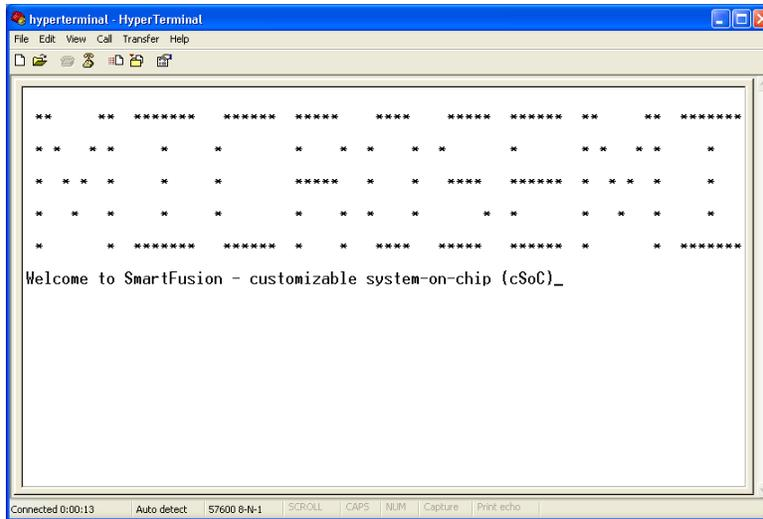

Figure 40 · UART HyperTerminal Window
- Observe the HyperTerminal window. It should display the greeting message with the Microsemi name, as shown in Figure 40 . .